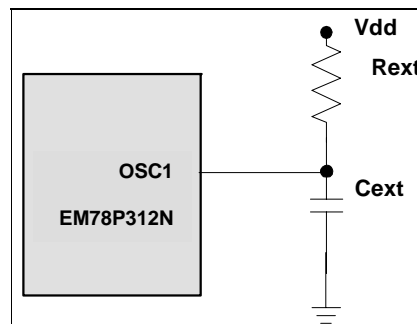

Fig. 5-33 External RC Oscillator Mode Circuit
The circuit shown in Fig. 5-33 use an external RC to produce the reset pulse. The pulse width (time constant) should be kept long enough for VDD to reach minimum operation voltage. This circuit is used when the power supply has slow rise time. Because the current leakage from the /RESET pin is about  $\pm 5\mu\text{A}$ , it is recommended that R should not be greater than 40K. In this way, the /RESET pin voltage is held below 0.2V. The diode (D) acts as a short circuit at the moment of power down. The capacitor C will discharge rapidly and fully. Rin, the current-limited resistor, will prevent high current or ESD (electrostatic discharge) from flowing to pin /RESET.